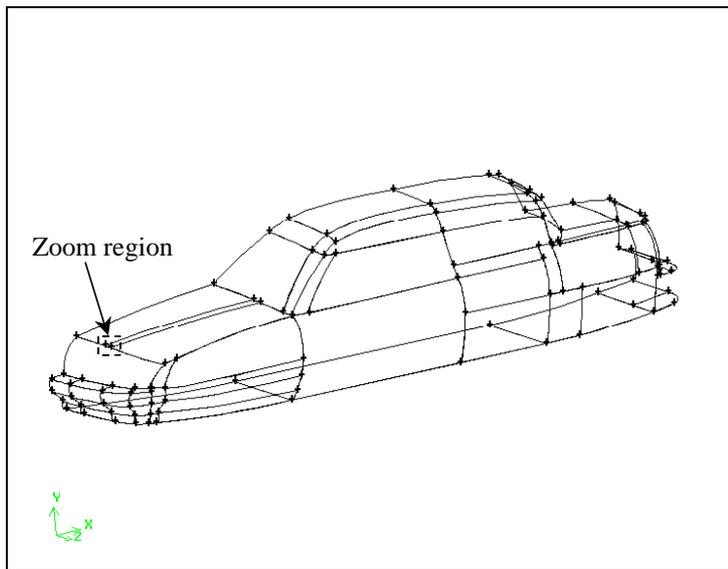

Figure 5-2: Imported sedan body
The IGES file for the sedan body will be read into GAMBIT (see Figure 5-2).
4. *Ctrl*-drag the mouse in the graphics window to create the zoom-region box shown in Figure 5-2, above (at the front of the sedan hood). When you release the mouse button, GAMBIT zooms in on the region.